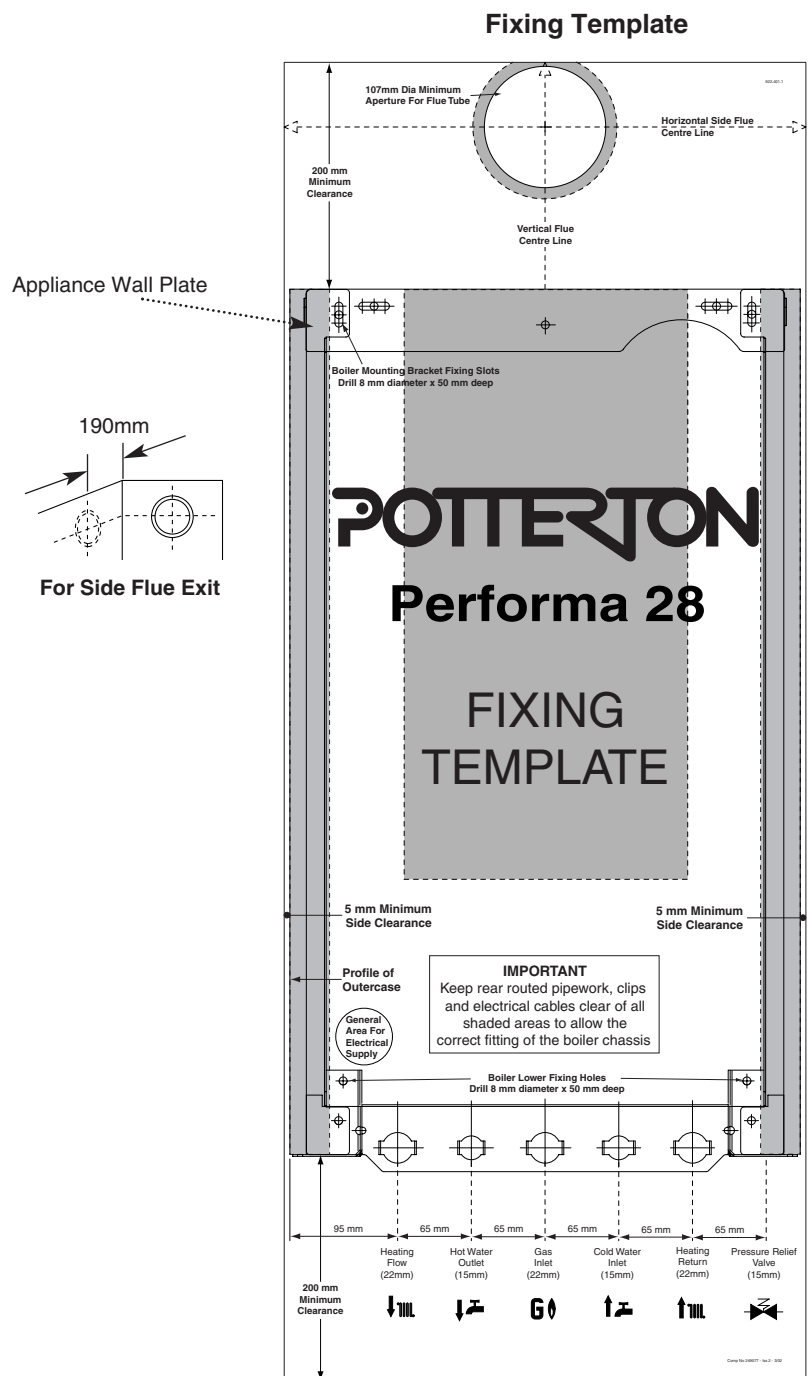

Fig. 16
1. After considering the site requirements (see Section 7.0) position the fixing template (Fig. 16) on the wall ensuring it is level both horizontally and vertically.